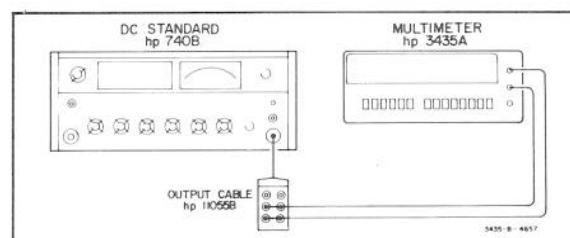

Figure 5-8. DC Gain Adjustment.
- c. Connect the 740B output to the Multimeter input as shown in Figure 5-8.